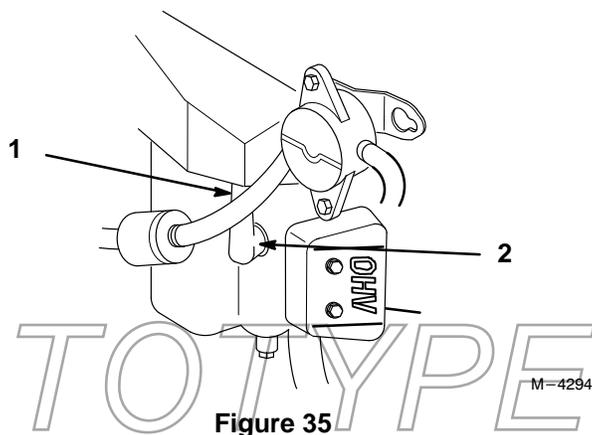

Figure 35
2. Pull the wire(s) off the spark plug(s) (Fig. 35). Now clean around the spark plug(s) to prevent dirt from falling into the engine and potentially causing damage.
3. Push the wire(s) onto the spark plug(s) (Fig. 35).